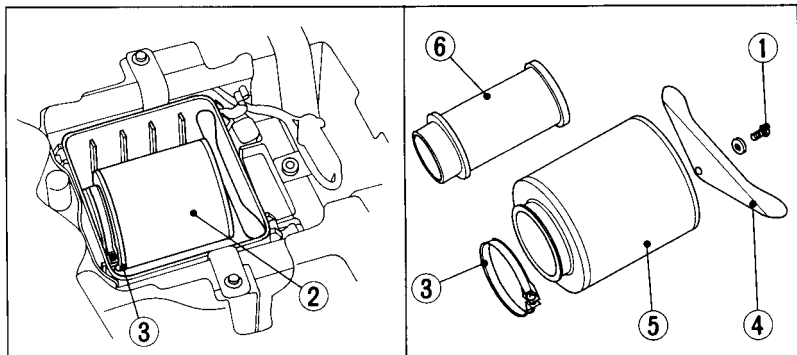

Fig. 4-6
3. Remove the screw (Fig. 4-6) and remove the air cleaner assembly (2) from the case.
4. Unscrew the clamp (3) and remove the mounting bracket (4).
5. Remove the filter (5) from the air cleaner body (6).